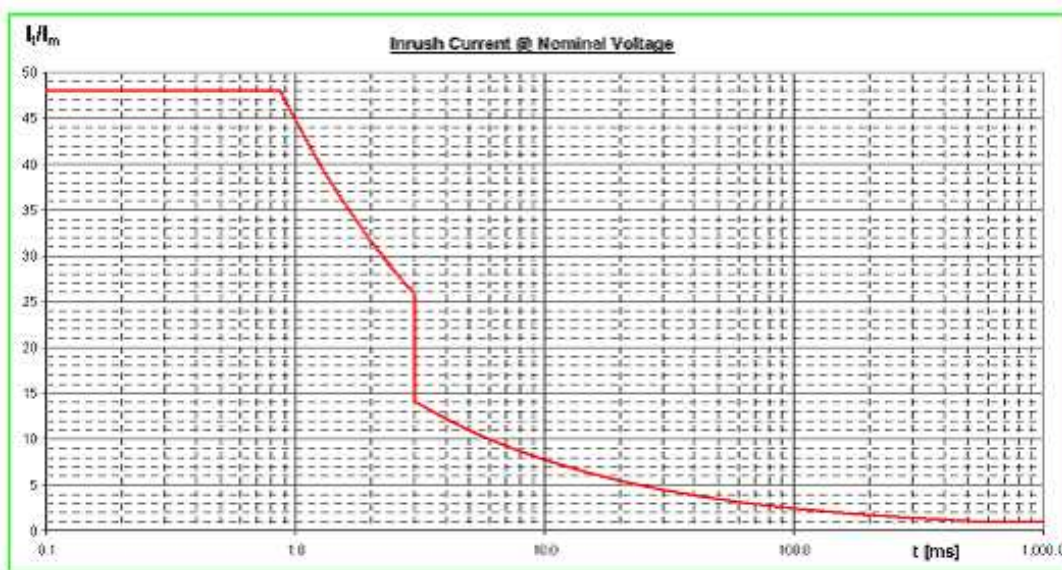

Figure 3: Maximum inrush current characteristics for telecommunications equipment at nominal voltage and maximum load
(5) Supply protection	The supply at interface “A” shall be protected by circuit breaker or other such devices. Circuit breaker is installed outside GX4000 Radio.
(6) Maximum current drain following abnormal service	Maximum current drain at any voltage in the normal and abnormal voltage range at interface “A” lasting for longer than 1 second shall not exceed 1.5 times the maximum continuous current drain at normal working voltage of -48 Vdc.
(7) Inrush current	In accordance with Figure 3, ETSI EN300 132-2 V2.2.1 (2007-05)